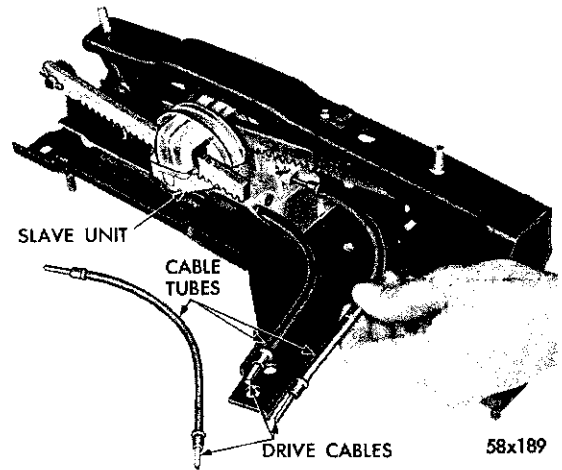

Fig. 5—Installing Left Cable Tubes in Slave Unit
- (1) Place the three left cable tubes into the left slave unit (Fig. 5).
- (2) With the shortest tube on the inside and longest on the outside, install the flexible cables in the tubes. Make sure the cables seat in the slave unit.
- (3) Position the drive unit on the left side tubes. Make sure the flexible cables seat in the slot in the drive unit.
- (4) Bolt the drive unit to the guide bracket.
- (5) Place the right side flexible cables in the right side tubes.
- (6) Position the left guide and drive assembly on the right side tubes. Make sure the cables seat in the drive assembly.
- (7) Install the right side tubes retainer plate.
- (8) Bolt the left guide assembly to the floor.
- (9) Install the seat and cushion assembly.
- (10) Reconnect the red feed wire and test the operation of the seat.